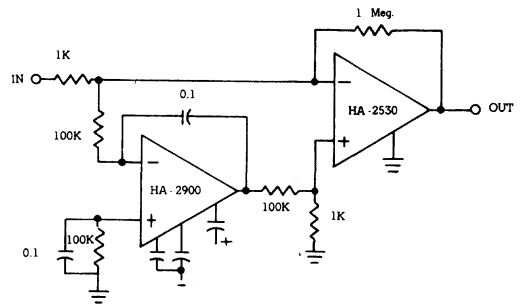

Figure 14
Figure 14 illustrates an excellent combination of characteristics for use wherever inverting amplifier applications are required. Features of the composite amplifier include: slew rate:  $300\text{V}/\mu\text{s}$ , gain bandwidth product: 10-500 MHz, D.C. gain:  $10^{13}$ , offset voltage drift:  $0.3\text{uV}/^\circ\text{C}$ , bias current drift:  $50\text{pA}/^\circ\text{C}$ , input noise (0-1 KHz):  $5\text{uV}$  peak to peak.
- Obtain the value of  $4KTR_g$  from Figure 14, and enter it on line (c) of the table. This is constant for all frequencies. The  $4KTR_g$  value must be adjusted for temperatures other than normal room temperature.